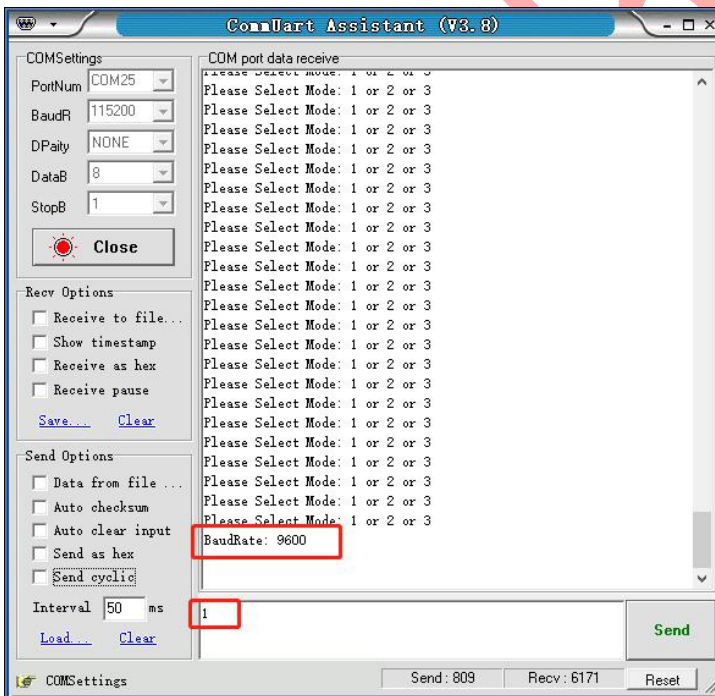

Figure 3.15 Information after sending instruction 1
- 3) Send 1, and the information shown in Figure 3.15 is received;